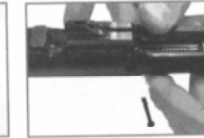

Fig. 35
9. Tilt bolt upright, lift the firing pin safety and the firing pin with firing pin spring will fall downward and out of its position (Fig. 35).